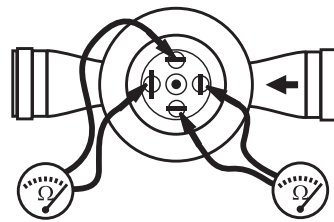

Fig. 7
- **EX4/EX5/EX6/EX7/EX8:** apply brazing for copper to stainless steel with minimum **30% silver brazing rod and required flux** (see Fig. 7).